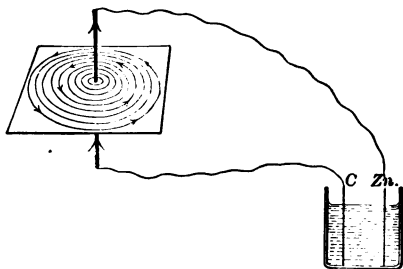

FIG. 227. — A wire through which current flows is surrounded by a field of magnetic force.
d. If a wire is passed through a card and a strong current is sent through the wire, iron filings will, when sprinkled upon the card, arrange themselves in definite directions (Fig. 227). A wire carrying a current is surrounded by a magnetic field of force.